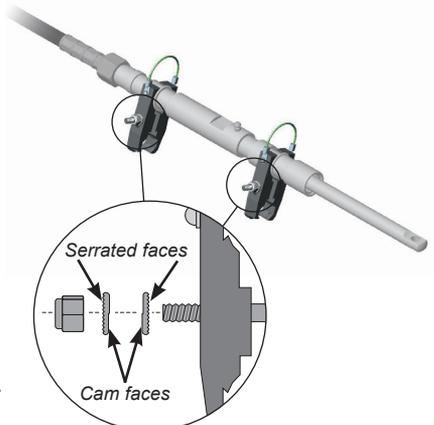

Fig B34 - Fitting the clamp assemblies
- i) The anti-vibration washers must be fitted in the correct order on the clamp assemblies, with the serrated face of the washer in contact with the nut face and the clamp face. The cam face of the washers must be in contact with each other (Fig B34).